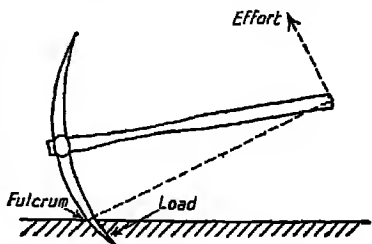

FIG. 140. A pick as a lever fulcrum between the effort and load.
7. A **pick** (Fig. 140). The effort should be in the direction shown in the figure (i.e. at right angles to the line from the end of the handle to the fulcrum) to obtain the greatest turning effect about the fulcrum, because the moment is the product of the effort and the *perpendicular* distance from the fulcrum to the line of action of the effort.